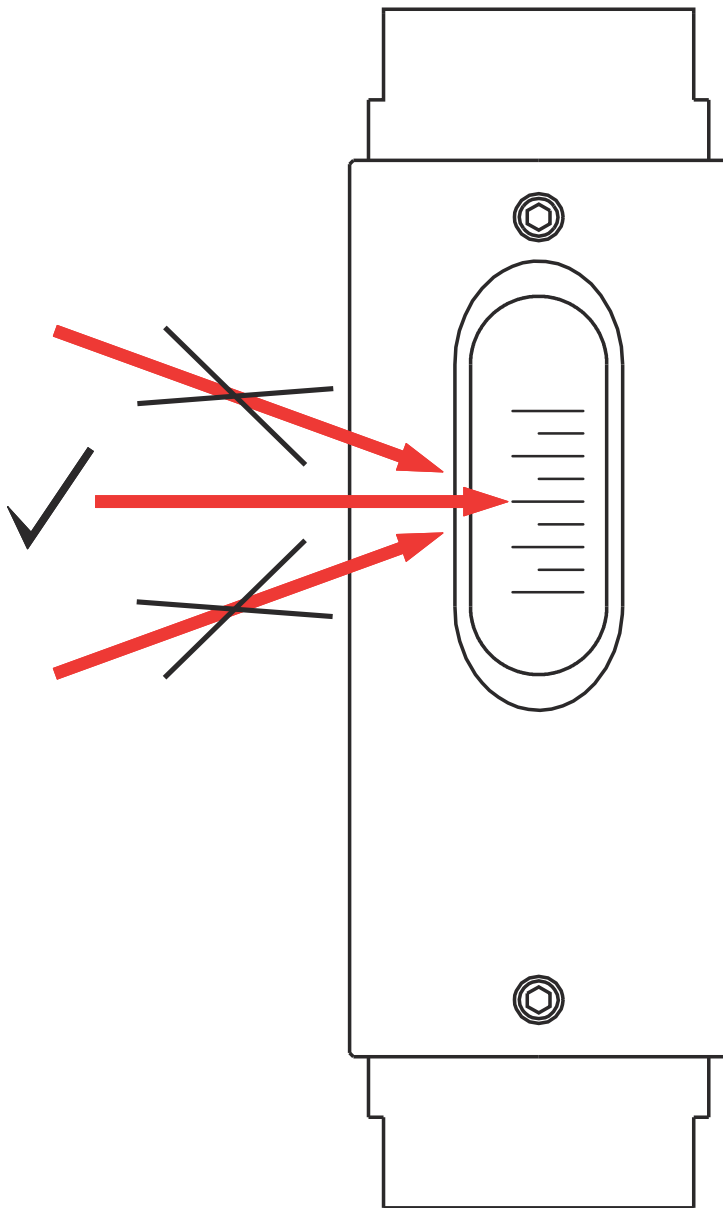

Fig. 33: Reading-off the measuring scale
2. ➤ To obtain greatest reading accuracy, read-off at eye level. (Fig. 33, middle arrow). The read-off value can be falsified by viewing at an angle